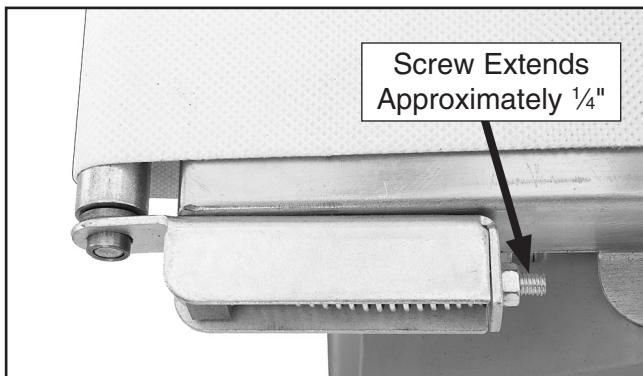

Figure 52. Example of tensioning screw extending beyond lock nut.
2. Check that ends of both tensioning screws extend evenly approximately $\frac{1}{4}$ " beyond lock nut, as shown in **Figure 52**.
2. Use permanent marker to mark feed belt tensioning screws where they extend beyond lock nuts (see **Figure 52**). This step will aid you in returning screws to their original position, reducing amount of tracking and tensioning necessary.